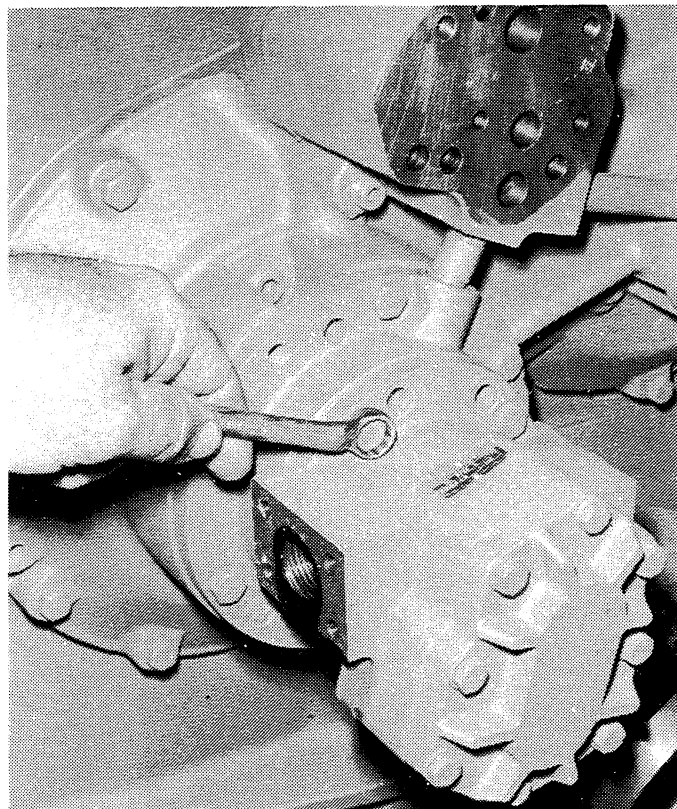

Figure 6-4. *Removing or Installing Oil Pump.*
3. Remove four hex-head screws (see Figure 6-4) and remove the oil pump and gasket.